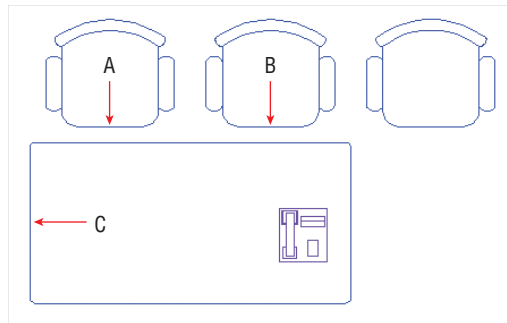

FIGURE 7.28 Copying a chair
-  7. Click the Copy tool on the Modify panel, select the chair on the right in the middle room, and press Enter. Snap to the midpoints at points A and B shown in Figure 7.28 and press Enter. A third chair is copied so that all three are equidistant.
-  8. Click the Mirror tool on the Modify panel, select the three chairs in the middle room, and press Enter. Click point C shown in Figure 7.28, move the cursor to the right, and click in the drawing canvas to complete the mirror line. Press Enter to mirror three more chairs on the opposite side of the desk.